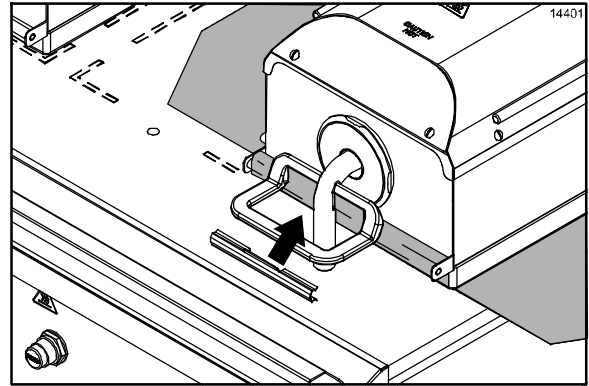

Figure 10
3. Center the release sheet on the bar. Pull it tightly over the release material bar located in the front of the shroud. Secure the sheet with a locking clip. (See Figure 10.)